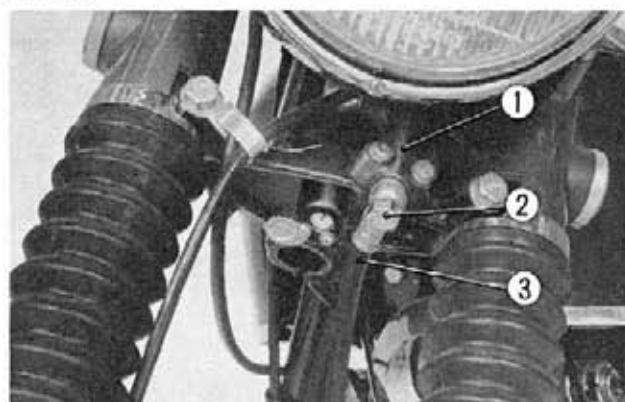

Fig. 14-3 ① Joint ③ Oil hose
② Oil bolt
2. Disconnect the front brake hose at the joint by removing the oil bolt. (Fig. 14-3)